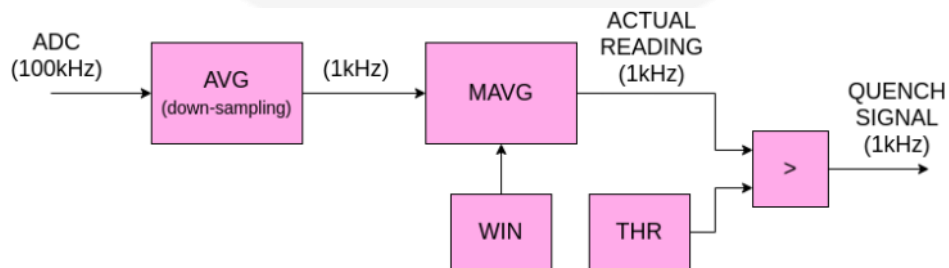

Figure 4: Signal processing block diagram
Figure 4 shows the digital elaboration of the acquired data. The analog readings from the four channels are converted into the digital domain by high-speed high-precision ADCs running at 100 kHz.
- verify that the “*Link LED*” on the RJ45 connector is turned on (amber for a 1 Gbps connection as shown in **Figure 4** or green for a 100 Mbps connection). The LED is turned off if the Ethernet cable is not connected or if the speed of connection is limited to 10 Mbps (in this last case the device is working correctly even if it is not recommended to use a slow connection since the data transfer rate is limited);